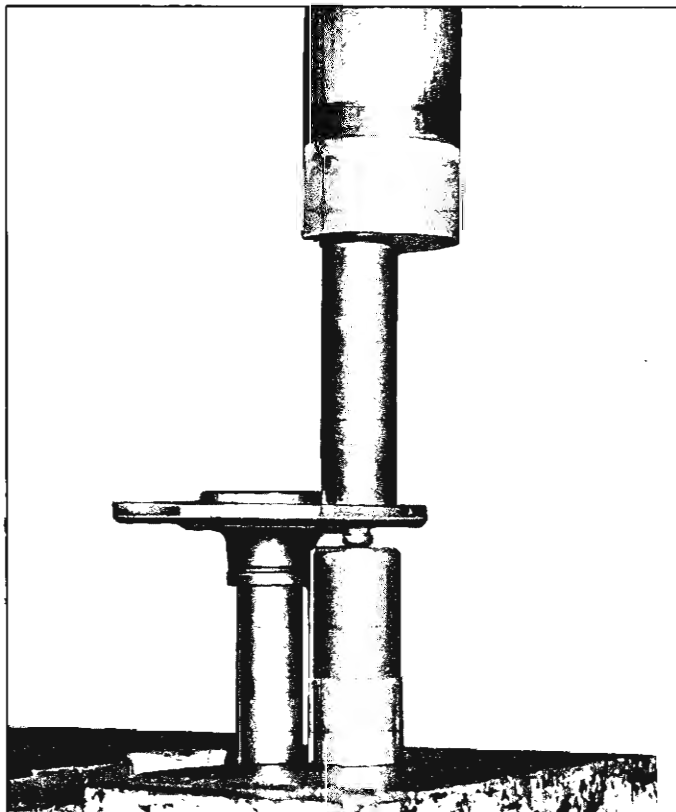

Fig. 6—Installing Flange Bolts
- 2. Using suitable hollow tool, press bolt into flange hole until bolt head is seated against flange (fig. 6).